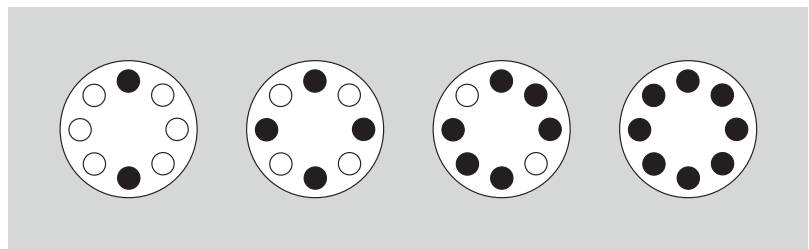

Figure 2. Arranging Tubes in the Rotor. Two, four, six, or eight tubes can be centrifuged per run if they are arranged in the rotor as shown.
3. Load the filled and sealed tubes symmetrically into the rotor (see page 8 for tube information). If fewer than eight tubes are being run, they must be arranged symmetrically in the rotor (see Figure 2). Opposing tubes must be filled to the same level with liquid of the same density.